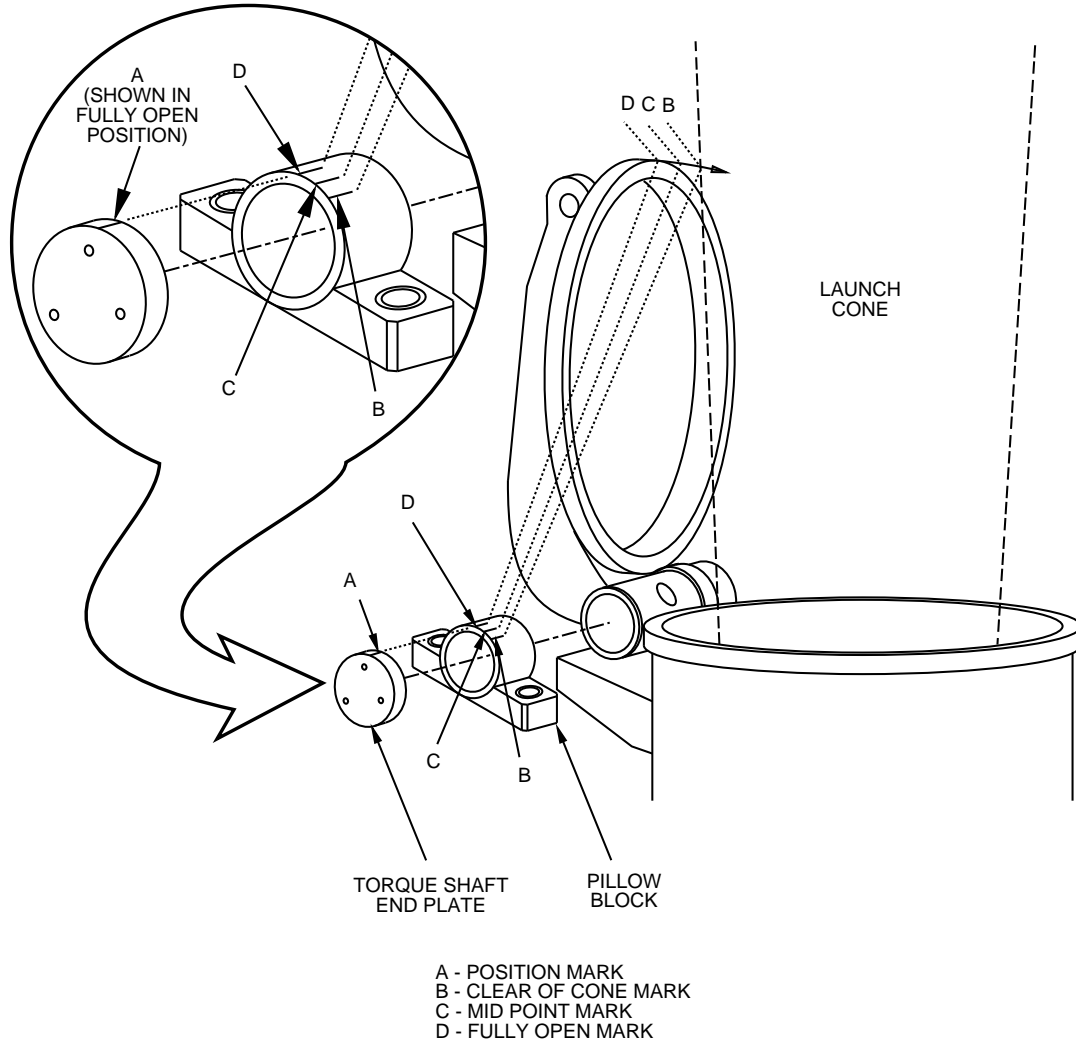

Figure 5-2-18 Hatch Open/CAC Scribe Marks
The Hatch Open and CAC switches are each wired in parallel to increase reliability. The hatch open switch provides a visual hatch open indication at the MTCP or TCP. The CAC switch acts as an interlock feature with the Combat and Control System (SSN 719-725 and 750) or Command Control/Acoustics (SSN 751 and Later) to ensure that the hatch is fully opened and clear of the missile tube launch cone (Figure 5-2-18) before the CAC signals are transmitted to the missile. The condition and alignment of these switches must be checked in accordance with applicable MRC of MIP 7211. If these switches require readjustment, refer to paragraph 5-2-17.2.
- a. For muzzle hatch open and CAC switches, verify that the hatch is fully open by ensuring that the hatch fully open scribe mark on the pillow block aligns with the scribe mark on the torque shaft. Refer to Figure 5-2-18.